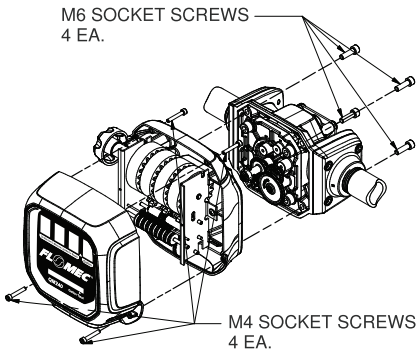

figure 2
1. The mechanical display case can be removed, rotated and reinstalled for easy reading with either horizontal or vertical flow. (see Figure 2)
2. Using the 5mm hex L-wrench provided with the meter, remove the (4) M6 socket screws that attach the register case to the housing.
4. Reinstall the (4) M6 socket screws and tighten to 42-46 lb-in [4.7-5.2 N·m] torque.